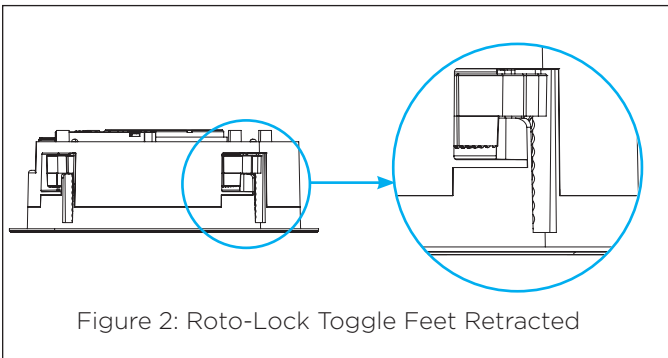

Figure 2: Roto-Lock Toggle Feet Retracted
- Make sure all the Roto-Lock toggle feet are retracted so that the speaker can fit within the mounting hole (see Figure 2).